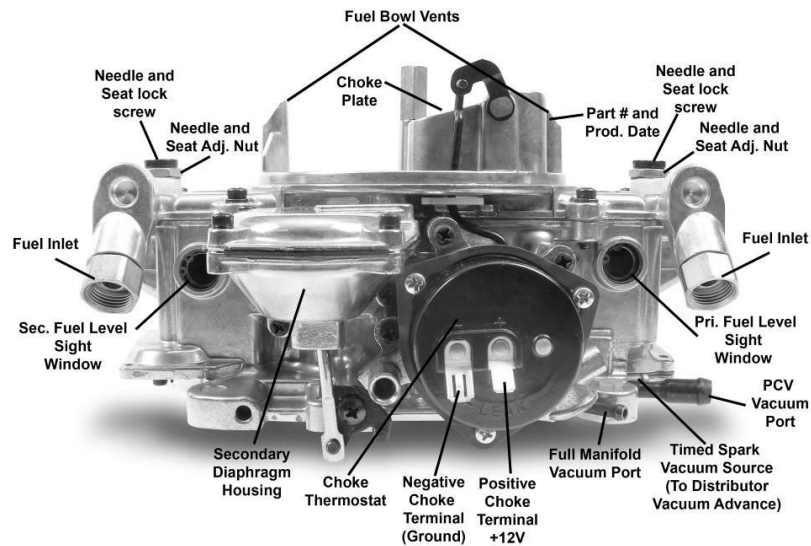
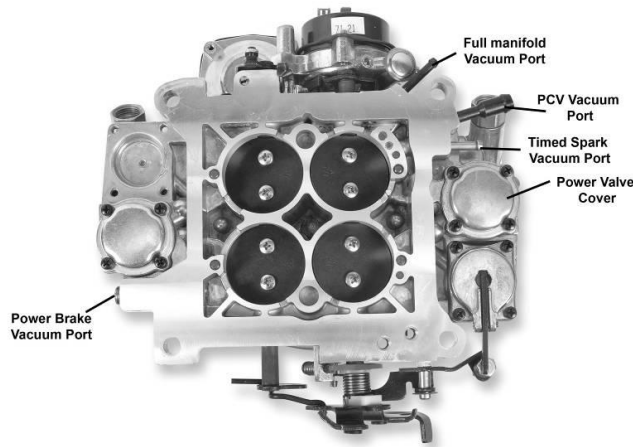

Figure 2
Figure3a
6. Reconnect the appropriate vacuum hoses to the carburetor, noting the correct fitting from Figure 2 and Figure 3a. Replace any cracked or dry rotted hoses at this time to prevent any vacuum leaks.
8. If connecting a Power Brake hose, remove the 1/8" Std. Pipe Plug on the back of the carburetor and install the included barbed fitting as shown in Figure 3a.
- A. Connect the electric choke lead (supplied) to the positive terminal of the choke cap. **The other end must be connected to a good fused ignition activated 12-volt source.** Hookup of this wire is **not** optional. (Figure 2)